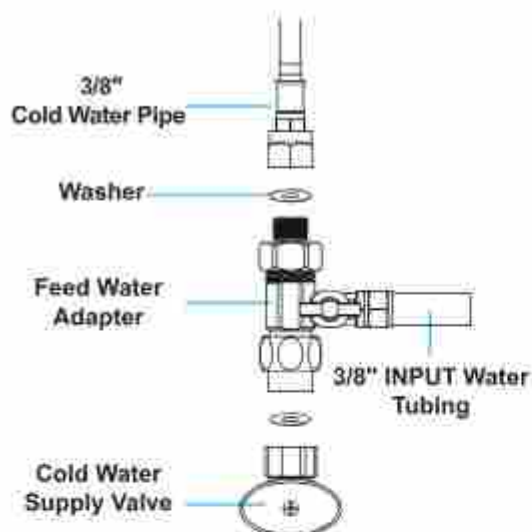

Figure 3
3. Twist the feed water adapter onto the cold water supply valve (with its washer) and tighten it with an adjustable wrench (Figure 3);